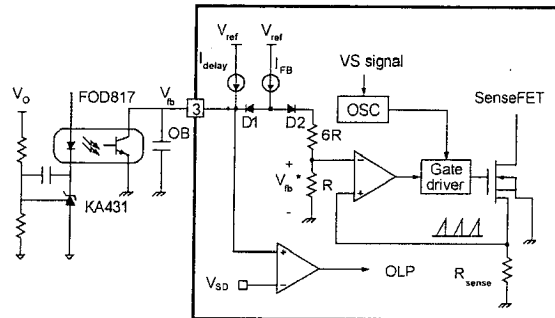

Figure 14. Valley Switching Pulse Width Modulation (VS-PWM) Circuit
2. Feedback Control: This device employs current mode control, as shown in Figure 14. An opto-coupler (such as the FOD817) and shunt regulator (such as the KA431) are typically used to implement the feedback network. Comparing the feedback voltage with the voltage across the R_{sense} resistor makes it possible to control the switching duty cycle. When the reference pin voltage of the shunt regulator exceeds the internal reference voltage of 2.5V, the opto-coupler LED current increases, pulling down the feedback voltage and reducing the drain current. This event typically occurs when the input voltage is increased or the output load is decreased.
2.1 Pulse-by-Pulse Current Limit: Because current mode control is employed, the peak current through the SenseFET is limited by the inverting input of PWM comparator (V_{fb}^*), as shown in Figure 14. Assuming that the 225 μ A current source flows only through the internal resistor ($6R + R = 12.6 \text{ k}\Omega$), the cathode voltage of diode D2 is about 2.8V. Since D1 is blocked when the feedback voltage (V_{fb}) exceeds 2.8V, the maximum voltage of the cathode of D2 is clamped at this voltage, thus clamping V_{fb}^* . Therefore, the peak value of the current through the SenseFET is limited.